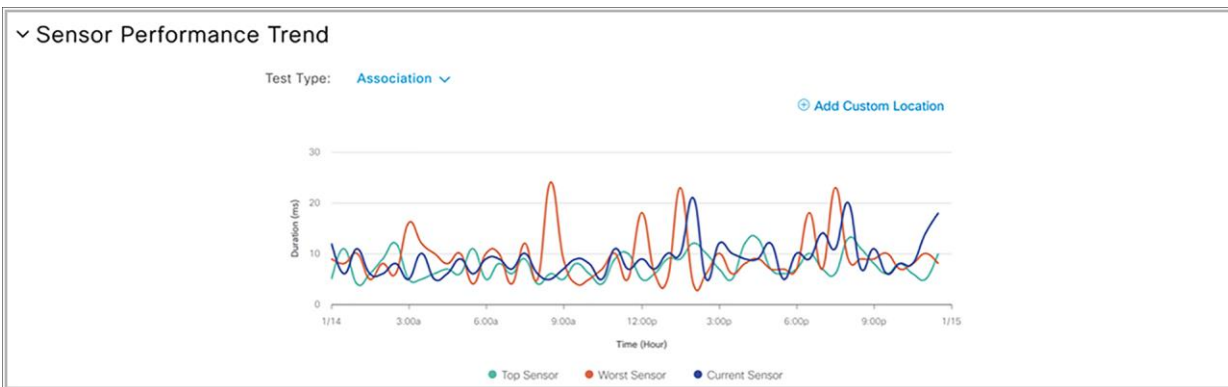

Figure 102.
1. Scroll down further on the Sensor 360 page to see a trend view chart that can be toggled to show different test types and is categorized by top sensor, worst sensor, and current sensor (Figure 102).
2. To add sensor test result data from other locations to this chart (which by default shows only data directly related to this sensor), click the Add Customer Location button and select a site (Figure 102).